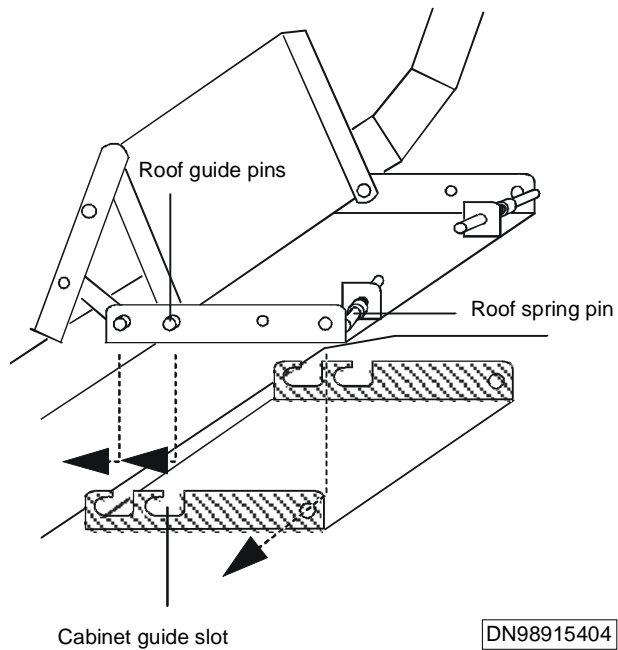

Figure 30 Securing the roof to the cabinet
2. Direct the roof guide pins into the cabinet guide slots as shown in Figure 30.
3. Slide the roof backwards so that the roof guide pins are engaged in the cabinet guide slots, as shown in Figure 30.
4. Release the roof spring pins shown in Figure 30.